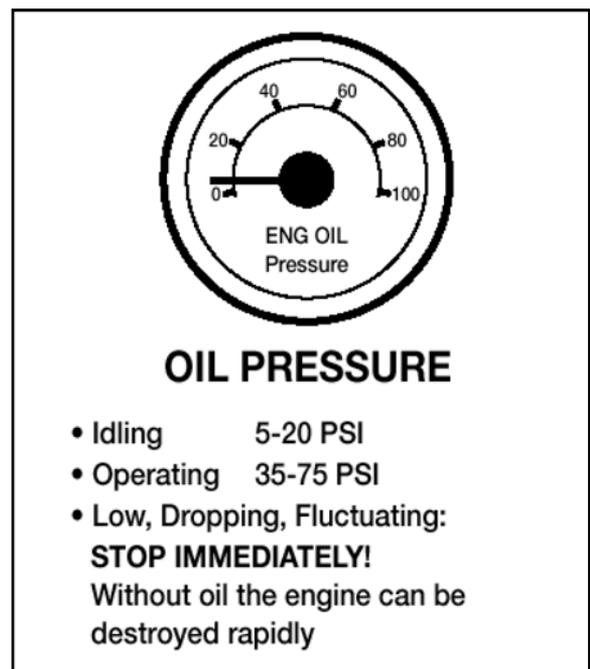

Figure 2.5
- Oil pressure. Pressure should come up to normal within seconds after engine is started. See Figure 2.5